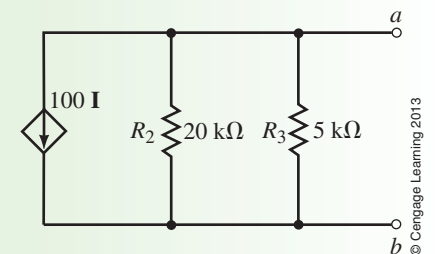

FIGURE 20-38
Step 1: Removing the load resistor from the circuit and labelling the remaining terminals a and b , we have the circuit shown in Figure 20-38.